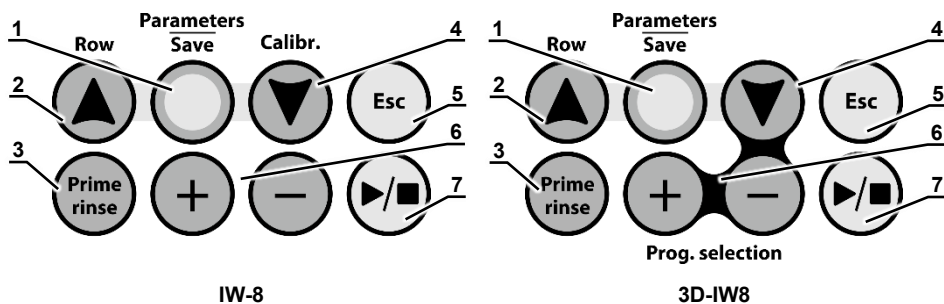
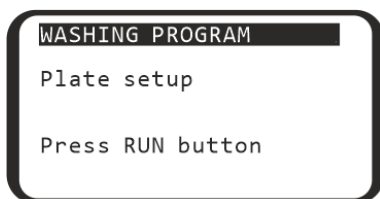

Figure 7. IW-8 and 3D-IW8 control panels
Figure 8. Plate setup
- Press the ▼ key (fig. 7/4) in the start mode, then the ▶/■ key (fig. 7/7), and the following message appears on the display (figure 8).
- To select the program number from 00 to 100, use the + and – keys (fig. 7/6).
- To edit the program parameters, press the **Parameters / Save** key (fig. 7/1).
- When editing the program parameters, to select next or previous parameter use the **Calibr. ▼** or **Row ▲** keys (fig. 7/4 and 7/2).
- When editing the program parameters, to exit the editing mode without saving, press the **Esc** key (fig. 7/5).
- Category **IPF96 U/V** (1) is intended for U-shape and V shape well immunoplates.
- Categories **IPF96 FLAT-2** (2) and **IPF96 FLAT-C** (3) are intended for flat-bottom well immunoplates.
- Categories **FastFRAME-2** (4) and **FastFRAME-C** (5) are intended for Watman Schleicher & Shuell FastFRAME plates with rectangular wells.
- To select a row, press the ▼ key (fig. 8/4). Row selection is looped.
- To change the row value, use the + and – keys (fig. 8/6).
5.8.2. To view the parameters of a program, press the **Parameters/Save** key (fig. 7/1).